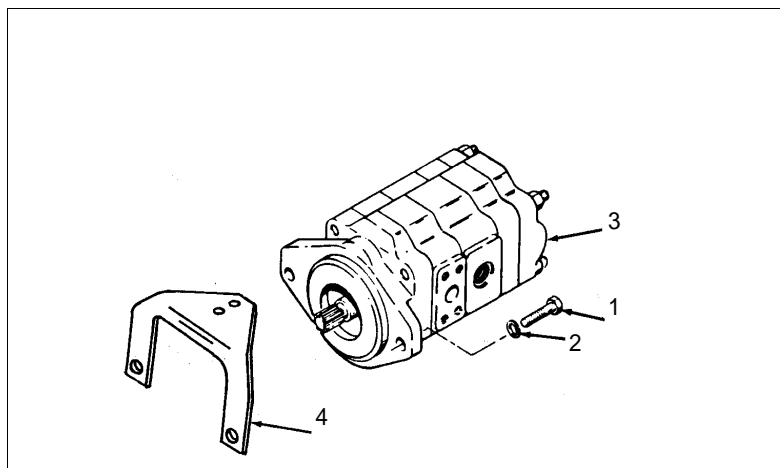

Figure 1-6. Hydraulic gear pump
b. Refer to Figure 1-6 and use the following steps to remove the gear pump:
- Support the hydraulic pump (3), and remove the two cap screws (1) and lock washer (2).
- Remove the pump (3) and bracket (4) from the transmission carefully. Place a protective cover over the splined drive shaft on the pump and the mounting pad to prevent foreign material from entering the transmission.
b. Refer to Figure 1-6, page 1-7. Install the gear pump and secure it with two screws (1) and lock washers (2). Connect the hydraulic lines to the pump.